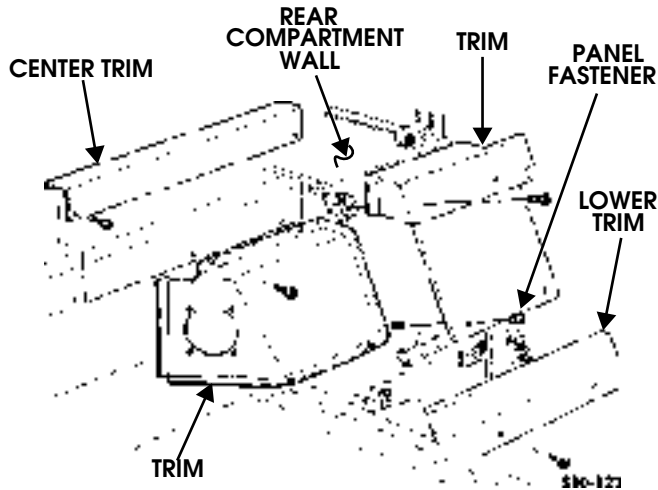

Figure 10-128: Rear Wall Compartment Location
6. Remove four screw and washer assemblies and trim from side of rear compartment wall (Figure 10-128).
10. Remove four screws, two panel fasteners, lower trim, and trim from rear compartment wall (Figure 10-128).
1. Secure center trim to rear compartment wall with screw and washer assembly (Figure 10-128).